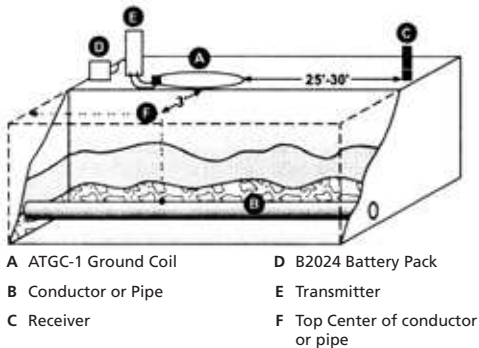

Fig. 2 – Proper distance for initial setup.
2. Arrange the ATGC-1 Ground Coil in a circle on the ground approximately 3' from the top center of the conductor or pipe (Fig. 2). **Note: Placing the coil directly over the conductor will not induce any signal.**
3. Plug the ATGC-1 Ground Coil (A) and B2024 Battery Pack (D) into the Transmitter (E).
5. At a distance of 25–30 ft from the coil, point the Receiver (C) perpendicular to the ground with the front label and Signal Strength Indicator facing the coil. If you do not get far enough away from the coil, the receiver will only pick up the signal radiating through the air off the coil itself.